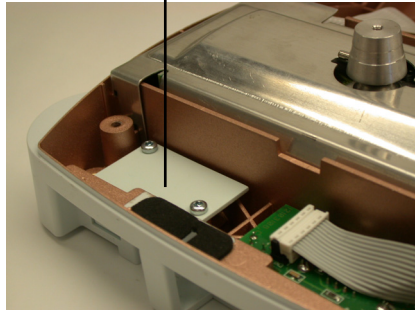

Figure 2B.
6. Remove the 2 screws securing the COM2 cover plate towards the back and right of the bottom housing (See Figure 2B). Discard the cover plate and 2 screws.